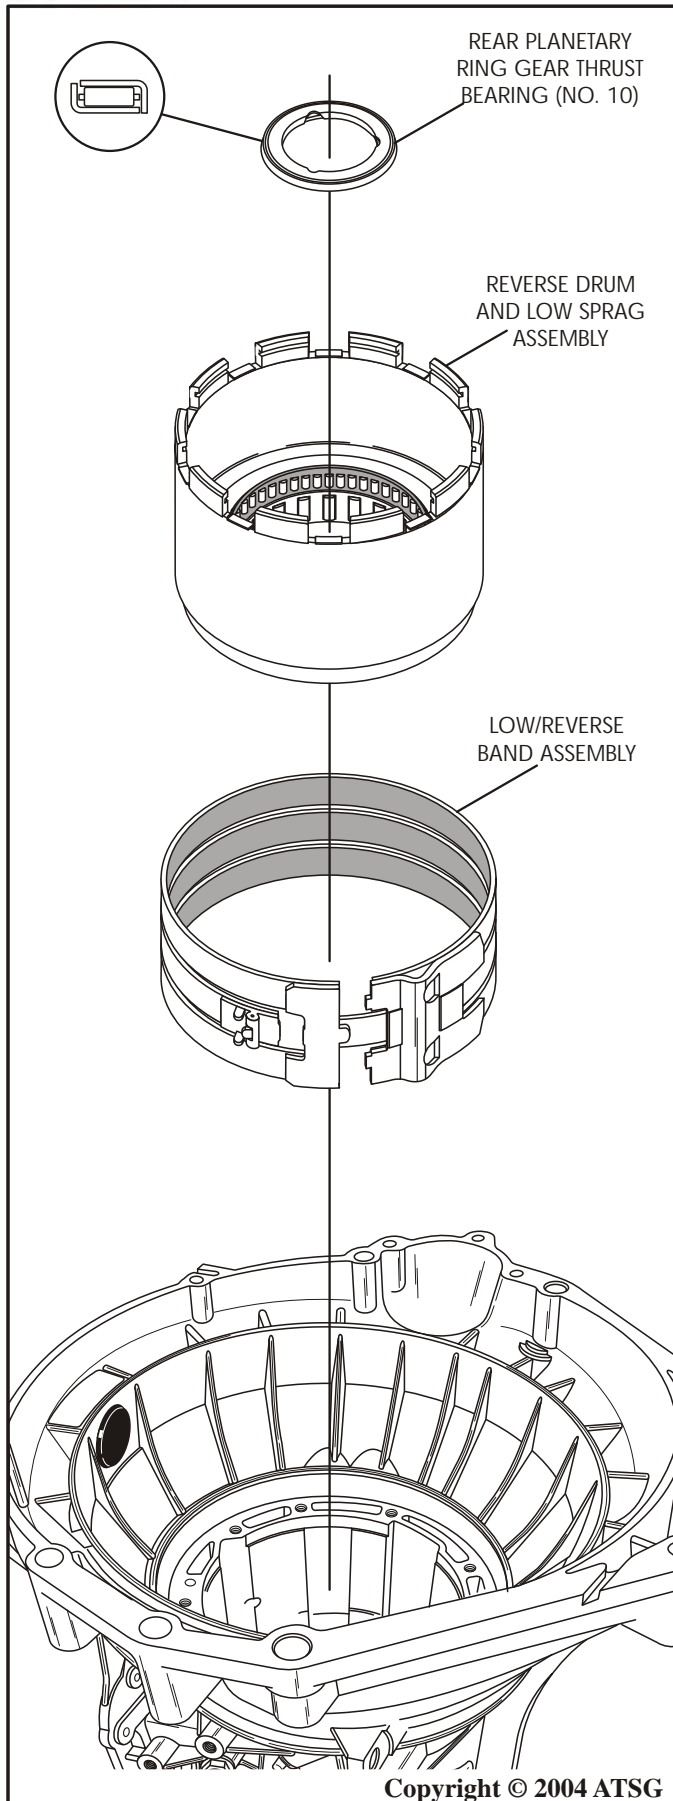

Figure 140
8. Rotate transmission in fixture so that front of case is facing up, as shown in Figure 140.
9. Install the reverse band into transmission, as shown in Figure 140, ensuring that it engages on the band anchor lugs in the case.
11. Install reverse drum and low sprag assembly into the reverse band, as shown in Figure 140, by rotating in a clock-wise direction until it falls into position.
12. Install rear planetary ring gear thrust bearing (No. 10) into the case in the direction that is shown in Figure 140.